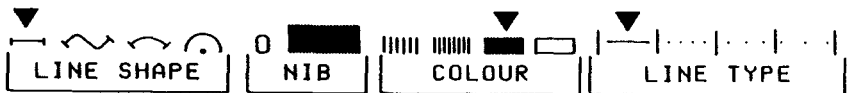

Fig 1
- 1 Move XY to aim the dynamic cursor at any of the colour blocks in the middle of the palette (Fig 1).